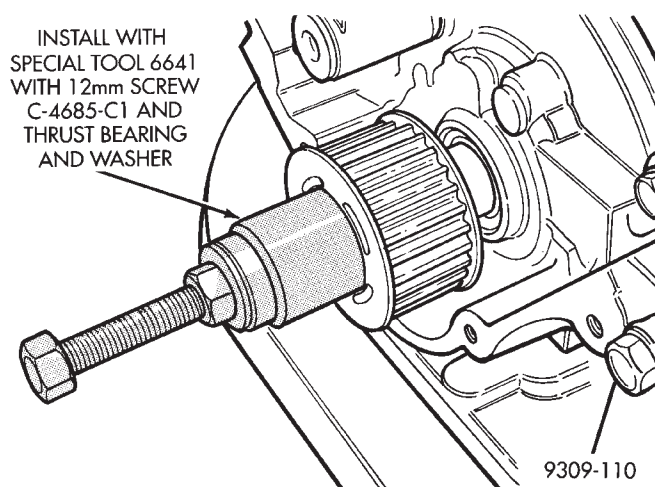

Fig. 81 Crankshaft Sprocket—Installation
(3) Install crankshaft sprocket using Special Tools 6641 and C-4685-C1 (Fig. 81).
(4) Install timing belt.